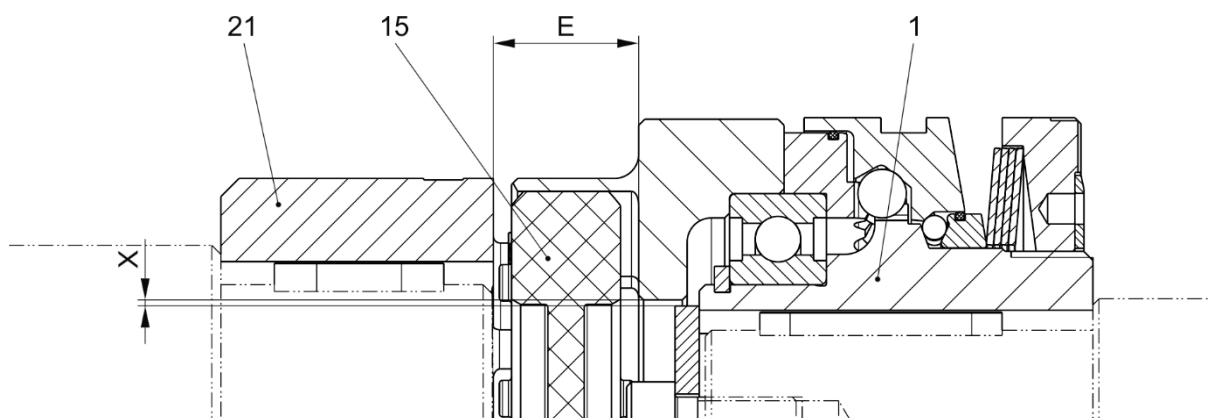

Fig. 10
There must be sufficient radial air between the press cover and the inner diameter of the output element (see Fig. 10).
**Keep to distance dimension "E" acc. Fig. 10 and Table 8!**